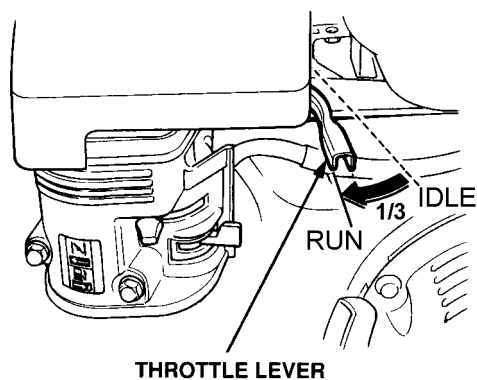

Figure 12. Throttle Lever (1/3 Start Position)
2. Move the throttle lever (Figure 12) away from the slow position, about 1/3 of the way toward the fast position.